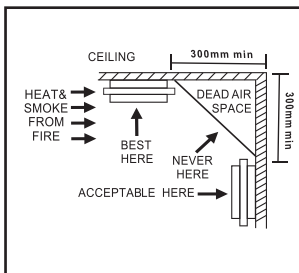

FIGURE 1
- When mounting an alarm on the ceiling, locate it at a minimum of 30 cm from the side wall. (see Figure 1).
- When mounting the alarm on the wall, use an inside wall with the top edge of the alarm at a minimum of 30 cm and a maximum of 50 cm below the ceiling. (see Figure 1).
- In homes that are not well insulated, extreme heat or cold can be transferred from the outside to the inside through poorly insulated walls and roof. This may create a thermal barrier which can prevent the smoke from reaching an alarm mounted on the ceiling. If you are not sure about the insulation in your home, or if you notice that the outer walls and ceiling are either hot or cold, install the alarm on an inside wall. In such homes, install the smoke alarm with the top edge of the alarm at a minimum of 30 cm and a maximum of 50 cm below the ceiling (see figure 1).